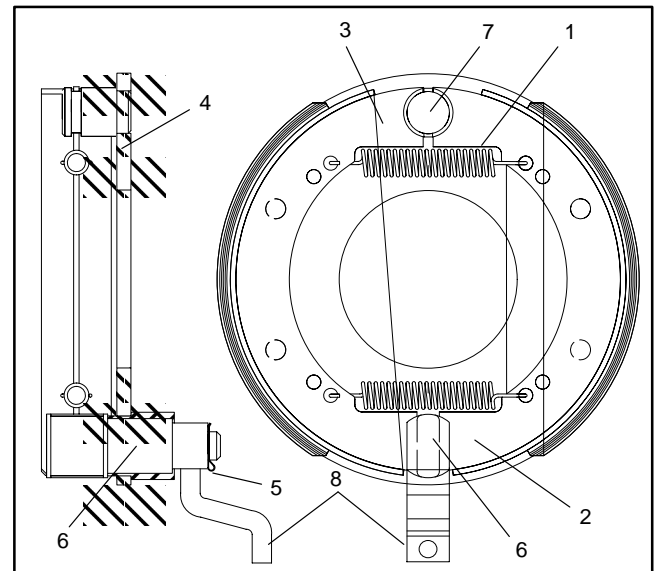

Figure 9
8. Disassemble brake assembly as follows (Fig. 9):
2. Assemble brake assembly as follows (Fig. 9):